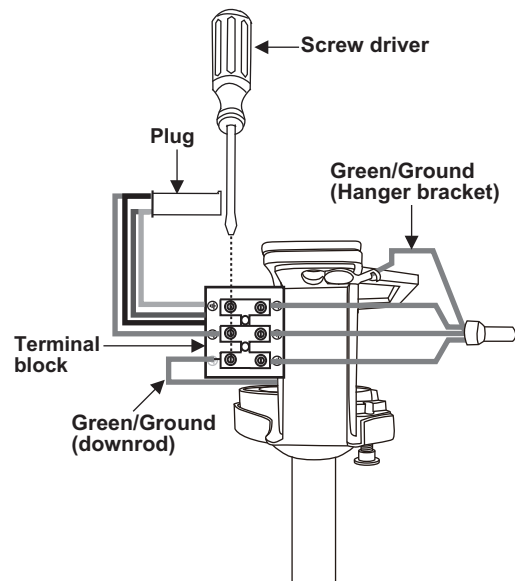

Figure 7
1. Connect the green/ground wire from the downrod ball to the terminal block. (Fig. 7)